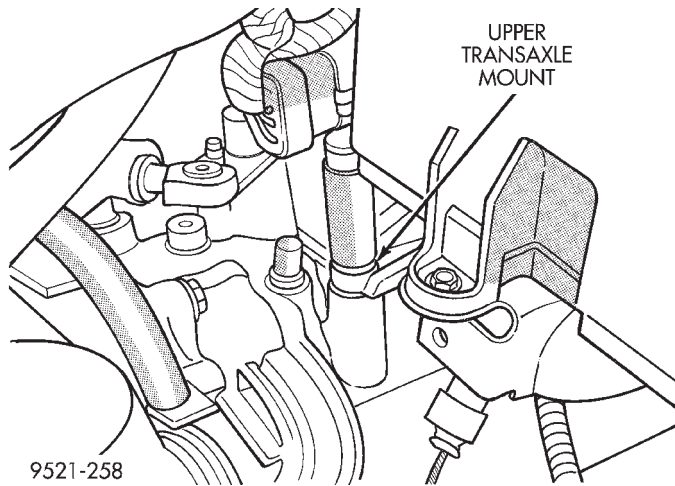

Fig. 26 Left Mount Upper Bolts
(10) Remove left transaxle mount upper bolts (Fig. 26).